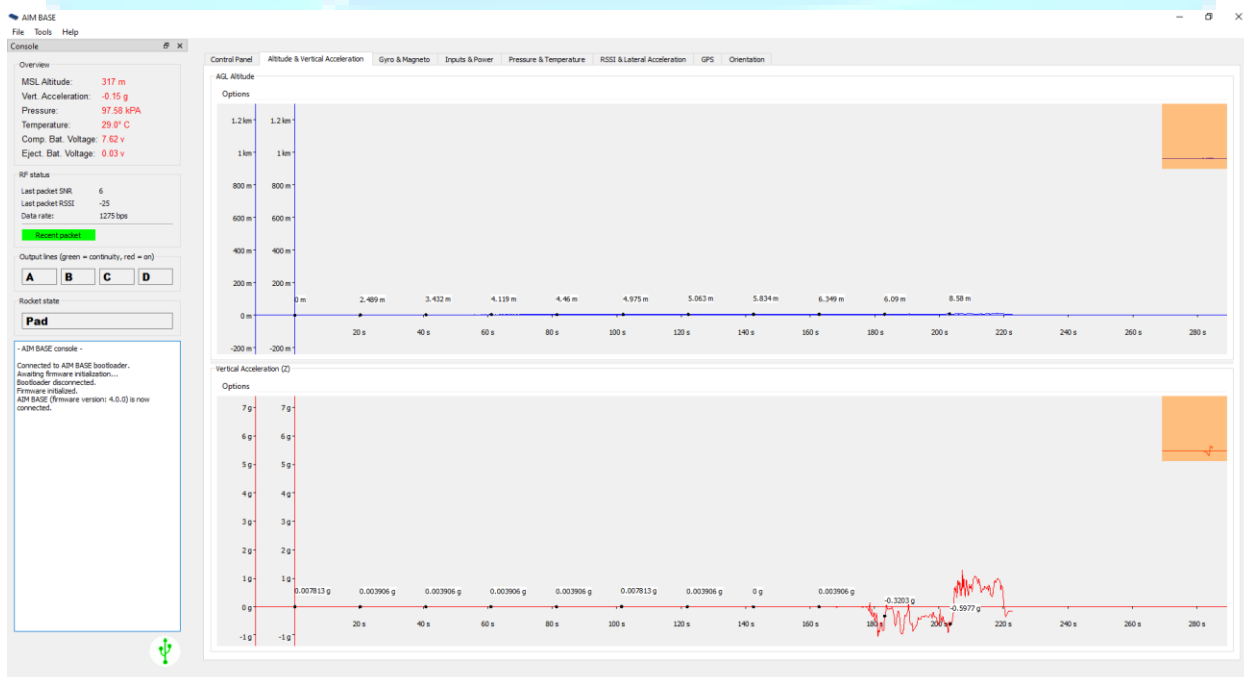

Figure 18: BASE Altitude & Vertical Acceleration
The Vertical Acceleration (Z) graph only depicts the Z axis acceleration (see Figure 18). Again, note that absolute acceleration data is reported for the Z axis which means that earth's gravity is included. This means that the readings will be approximately 1 g higher than acceleration values relative to the earth's surface.